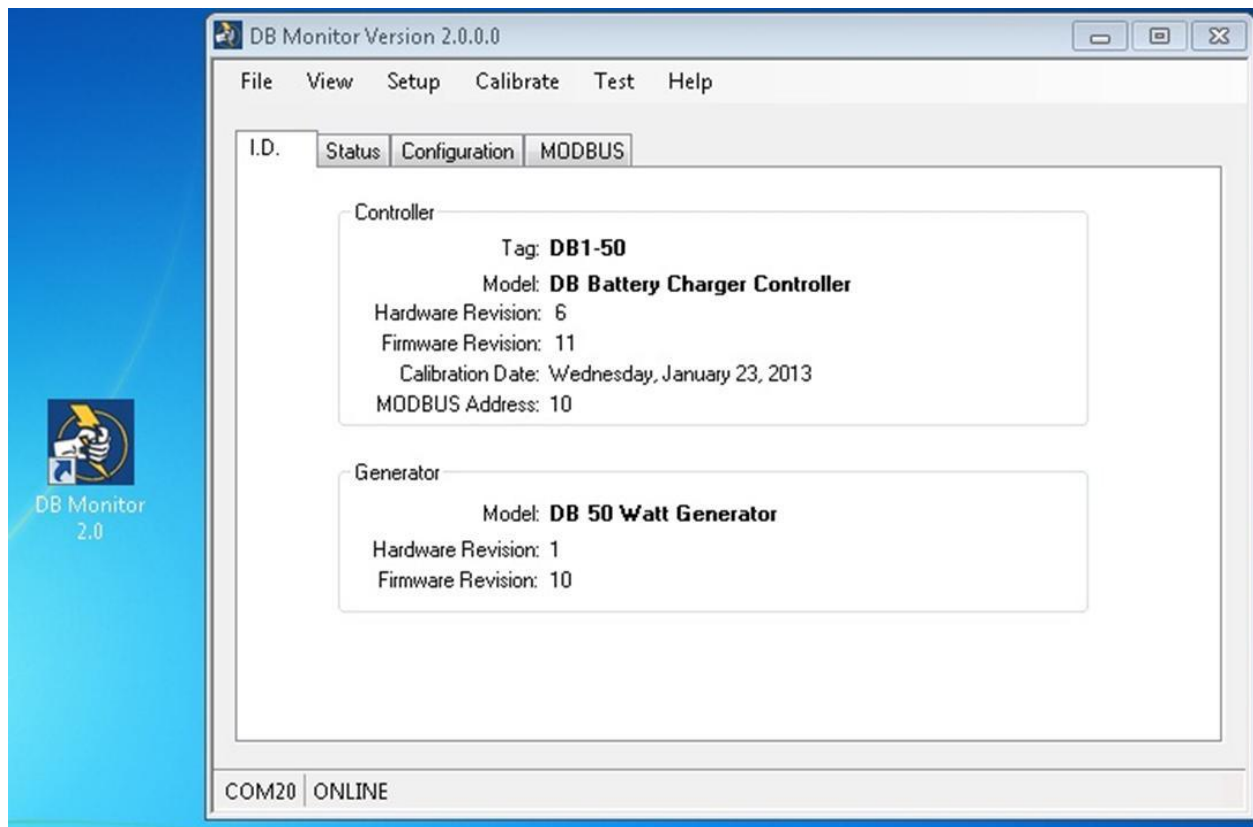

Figure 3-4. DB Monitor icon and I.D. screen
3. Double-click the **DB Monitor** icon to start the program. The I.D. screen will be displayed. See Figure 3-4 (page 23).
- I.D.: The I.D. tab displays controller and generator information. See Figure 3-4 above for an example.